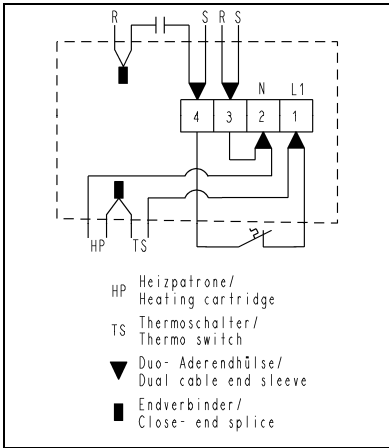

Fig. 3a: Electrical connection (.11-designs: with thermostatically regulated head heating) except for N 036_T.11 E)
3. Connect the mains cables to the connections L 1 and N of the luster terminal (see figs. 3a, 3b or 4).